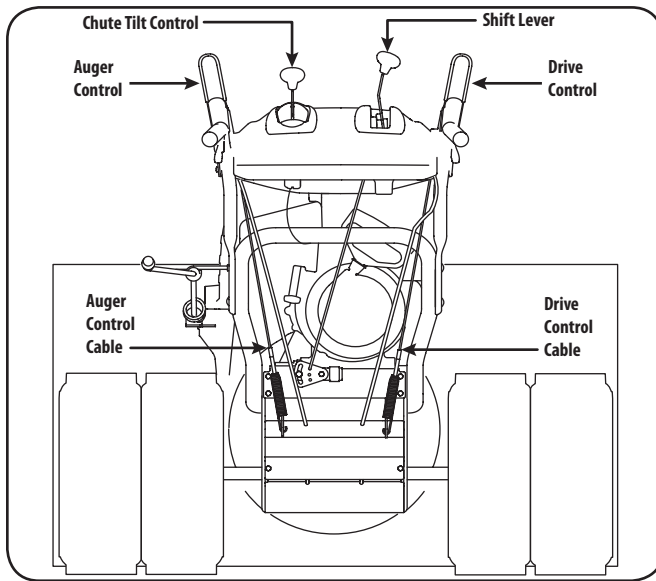
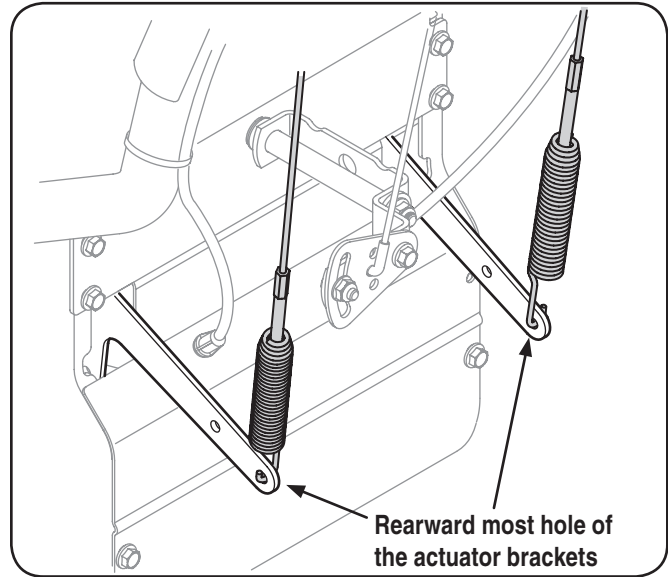

Figure 3-10
Figure 3-11
4. Looking beneath the handle panel, check that all of the cables (steering, auger, and drive) are properly routed and not pinched or kinked. Make certain the springs at the lower end of the auger and drive cables are securely hooked into their respective actuator bracket. See Figure 3-11.
When the auger control is released and in the disengaged "up" position, the cable should have very little slack. It should NOT be tight. Refer to Figure 3-10.
- With the engine turned off, move the shift lever into sixth (6) position. Refer to Figure 3-10.
- From beneath the handle, pull downward on the appropriate cable and unhook the spring found on the end of the cable from its respective actuator bracket. Refer to Figure 3-10 and Figure 3-11.